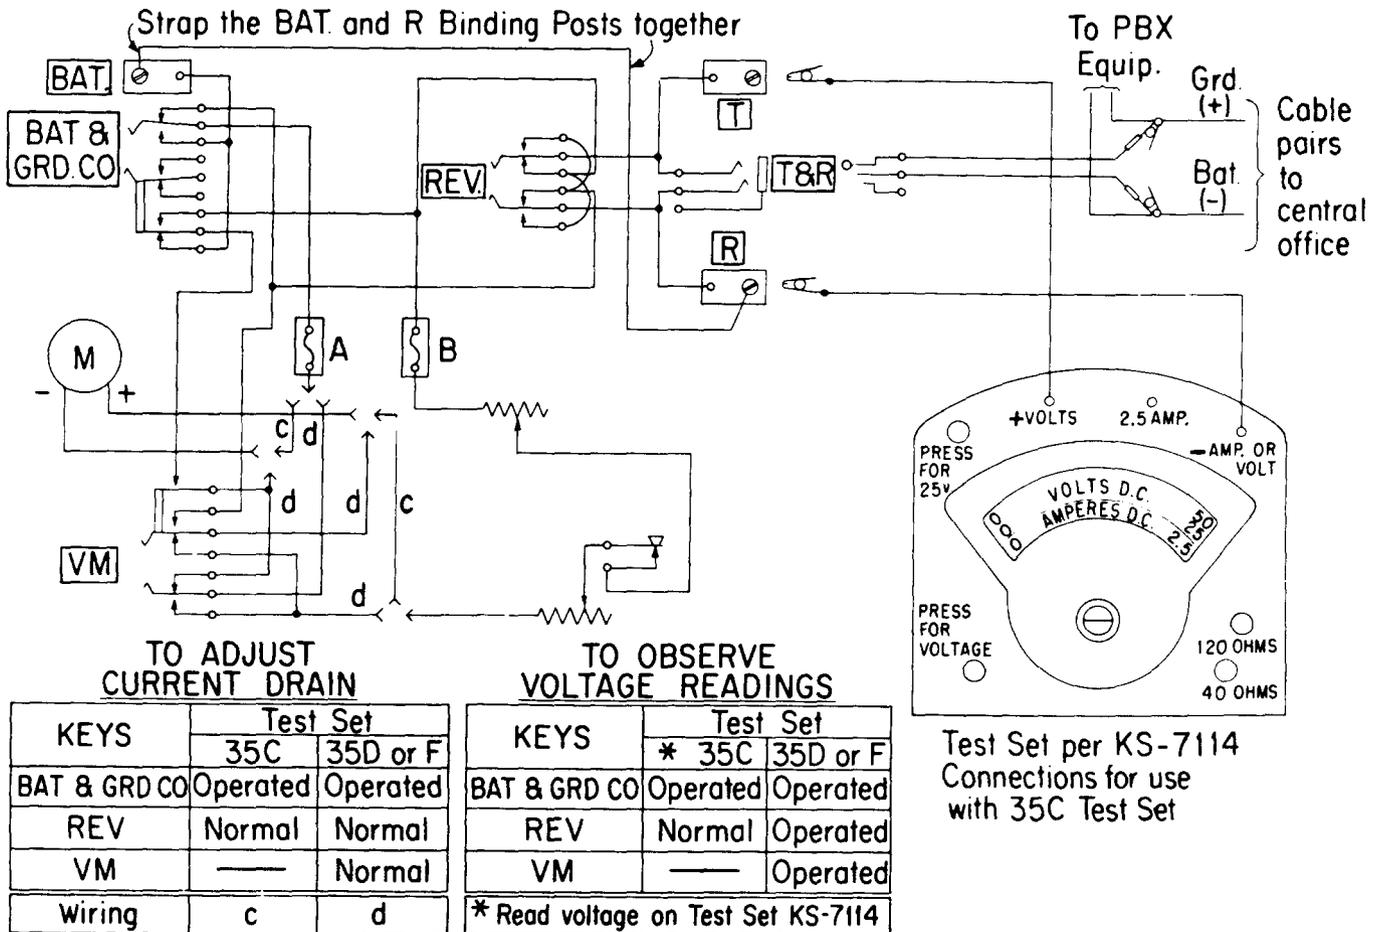

Fig. 2
3.11 Connect the 35-type test set as shown in Fig. 2. If a 35-type test set not arranged to read voltage is used, connect the KS-7114 test set also, as shown in Fig. 2.